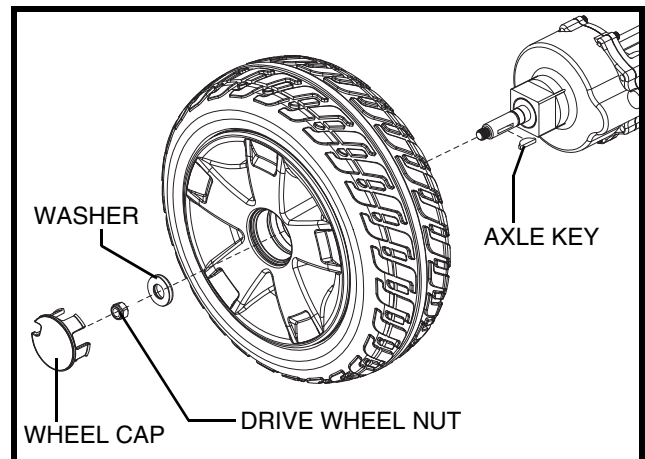

Figure 22. Solid Tyre Wheel Removal
3. Remove the wheel cap, drive wheel nut, and washer from the axle. See figure 22.